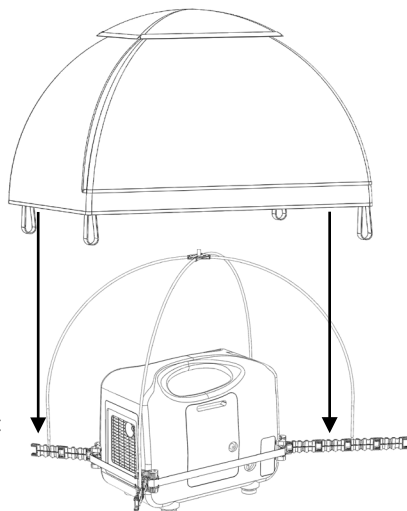

Fig. 4.1
- b. Place the GenTent Canopy on the Frame Rods. Center the top cap on the Center Connector pin. (Fig 4.1) Ensure the GenTent Canopy coverage is generally equal and level.